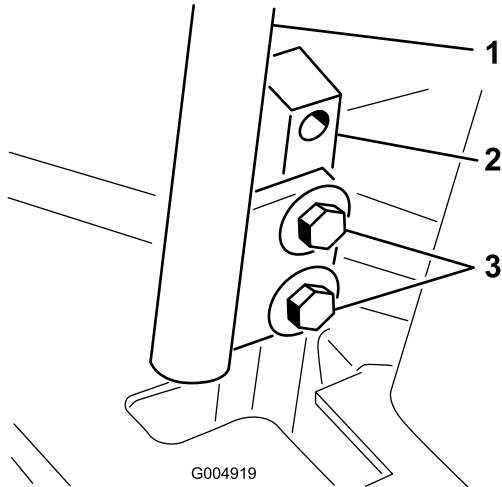

Figure 83
3. Loosen the bolts securing the control levers (Figure 83).